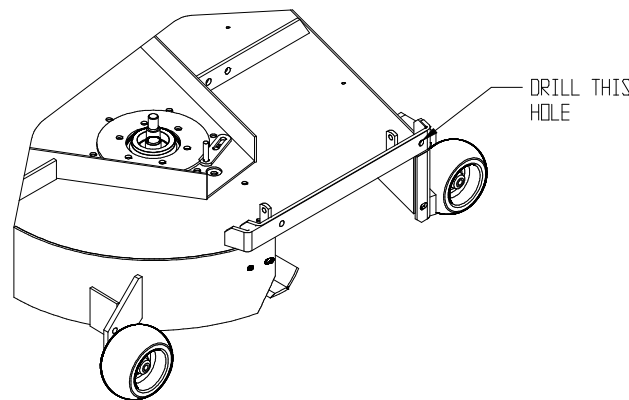

FIGURE 9
- 3.3.12 72" units serial number 259,999 and below will require the deck to be modified by adding the accessory mounting tube. Exmark kit 103-0583 contains the parts and templates required. Follow the instructions in this kit. These decks will also require drilling the hole at the front upper corner of the discharge opening to $\frac{1}{2}$ inch diameter. (See Figure 9). Touch up with red paint Exmark P/N 1-850337.